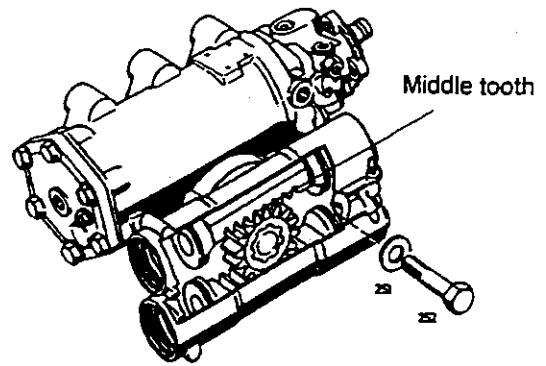

Fig.47
Screw add-on cylinder (250) onto the steering so that the middle tooth of piston (258) engages in the gap in gear (254) in each case (Fig.47).